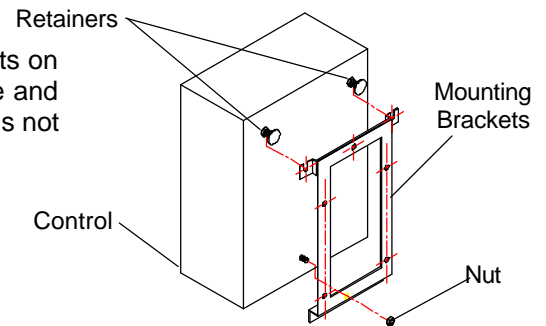

Figure 4
6. Secure the mounting bracket to the manifold control unit by sliding the round retainers on the back of the cabinet into the slots on bracket. Place the nut on the bolt which protrudes from the case and tighten lightly. This bolt only stabilizes the bottom of the unit and is not load-bearing (the nut is shipped threaded to the bolt). (Figure 4)